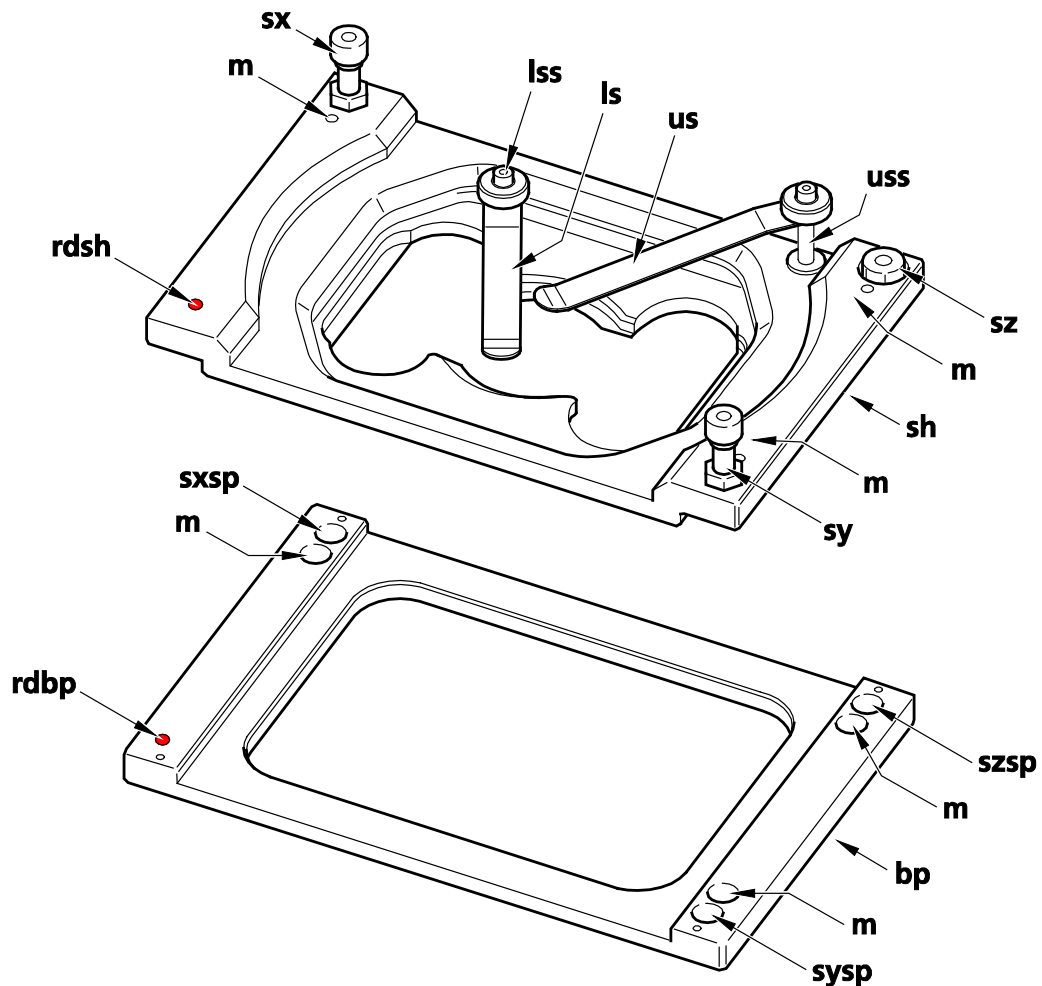
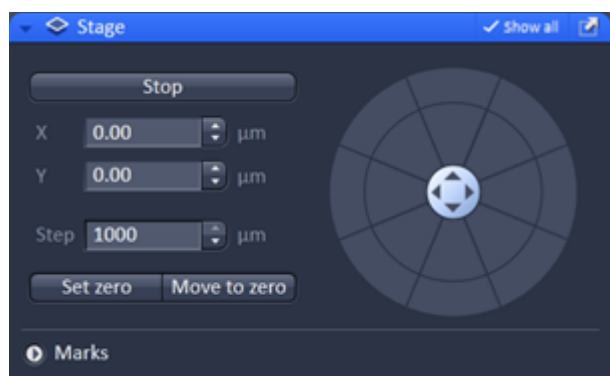
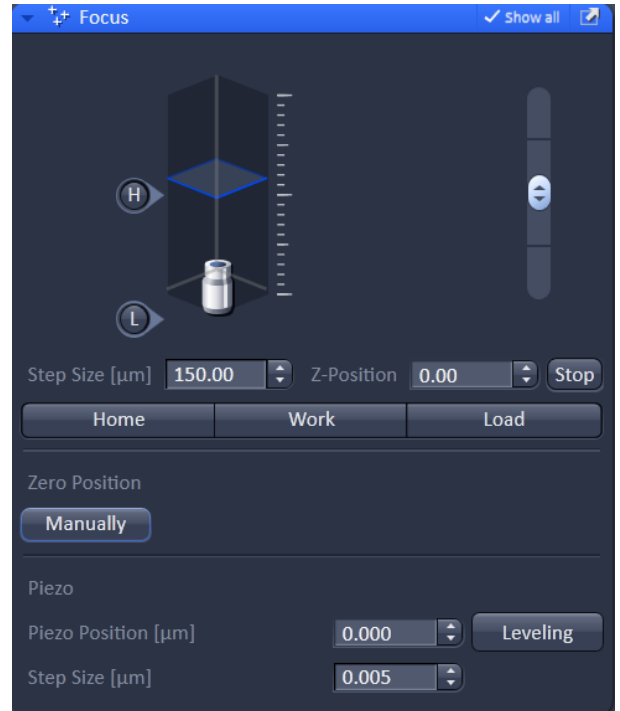

Fig. 3 Level-adjustable Piezo stage insert – Sample holder and base plate separated
Fig. 8 Stage tool – x and y position set to zero
Fig. 9 Focus tool – z-position set to zero
For the Piezo stage a level-adjustable stage insert is available. It consists of two parts (Fig. 3):
- Base plate (lower part) (Fig. 3, **bp**)
- Sample holder (upper part) (Fig. 3, **sh**)
The base plate is inserted into the Piezo stage. The sample holder is then placed on top of the base plate (Fig. 4). Both parts and both are held together by magnets (Fig. 3, **m**).
The sample holder is three-point mounted onto base plate via three screws (Fig. 3, **sx**, **sy** & **sz**) of the sample holder resting in their corresponding supporting points (Fig. 3, **sxsp**, **syssp** & **szsp**) (Fig. 4).
The front-left side of both, the base plate and the sample holder is indicated by a red dot (Fig. 3, **rdsh** & **rdbp**).
When changing samples it is sufficient to take out only the sample holder, which is most conveniently done by pulling on the shafts of the upper and lower spring clamps (Fig. 3, **uss** & **lss**).
The strength of the magnets is weak enough that the sample holder detaches easily from the base plate when pulled. When inserted back the sample holder will attach to the base plate via the magnets (Fig. 3, **m**).
If Koehler illumination was adjusted, the condensor can reach so deep that it can collide with the screws and upper spring shaft (Fig. 3, **sx**, **sy** & **uss**) when the full travel range of the motorized microscope stage is used. Care should therefore be exerted in this case by restricting the travel range. If Koehler illumination is not required it is recommended to move the condensor to the up position to avoid potential collisions.
2. Set stage to zero by pressing the **Set Zero** button in the **Stage** tool (Fig. 8). Set focus to zero by pressing the **Manual** button in the **Focus** tool (Fig. 9).
3. Draw fiber plug of X-Cite completely out from the X-Cite casing. Start acquisition. The image will be dark since fiber was pulled out. Put fiber back and slowly move in until you will see a coarsely adjusted image to have sufficiently reduced light levels you can work with. (Note: with the fiber all in, the lamp is simply too bright leading to oversaturation of the camera). You might see already two unfocused rings; but there is also a chance that you cannot see the fiber outline at all. Pull the fiber on the ELYRA site until the two rings become clearly visible and are in focus (Fig. 8, **A**). If the illumination is far from being centric, the sample is already strongly tilted and it is recommended to do a pre-adjustment. To this end adjust the edges of the clefts viewed from the right side (Fig. 4, **csv**) and back side (Fig. 4, **cbv**) to be parallel using screws **sy** and **sx**, respectively (Fig. 4). The cleft's width should be approximately 2 mm as preset by the factory, but can be adjusted with screw **sz** if needed.
4. Level stage by turning the screws of the sample holder (Fig. 3, **sx** & **sy**) until the more or less focused circles overlap (Fig. 8, **B**).